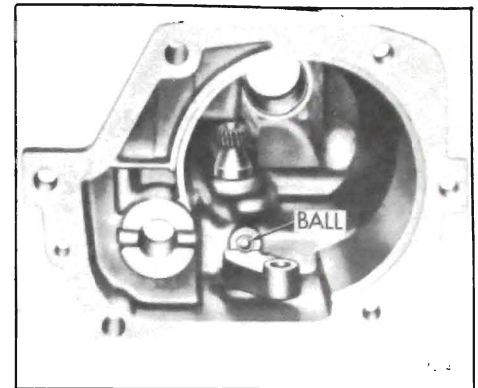

Figure 72-413 - Installing Reverse Shifter Shaft
5. Place detent ball on spring, while holding ball down with a suitable tool, push the shift shaft into place and turn until the ball drops into place in detent on shaft detent plate. See Figure 72-413.